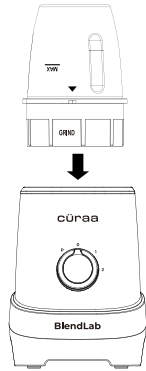

Fig. 2
- Put the Jar onto the power base. Make sure the Locking pins of the Jar are in correct position on three grooves of the motor unit. (Fig. 2).